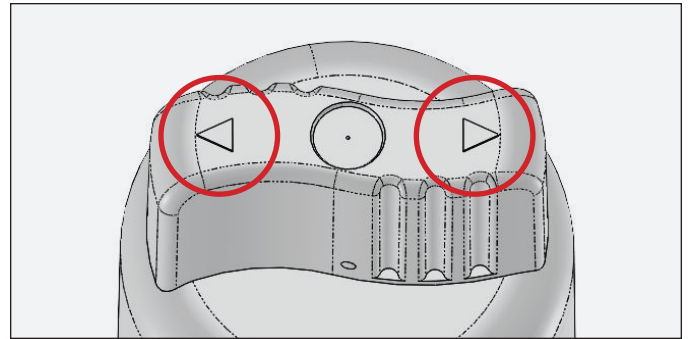
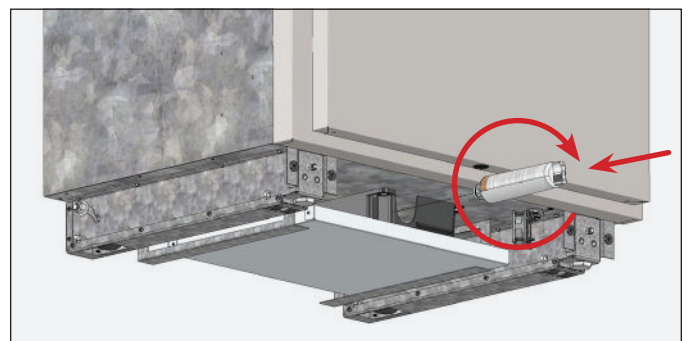

FIG. 5. Water filter handle arrow locations.
FIG. 6. Insert the water filter and rotate it clockwise.
5. With the handle arrows (see fig. 5) vertical, insert the water filter into the filter receptacle. See fig. 6.
6. Rotate the water filter clockwise until the filter stops turning. See fig. 6 and 7.